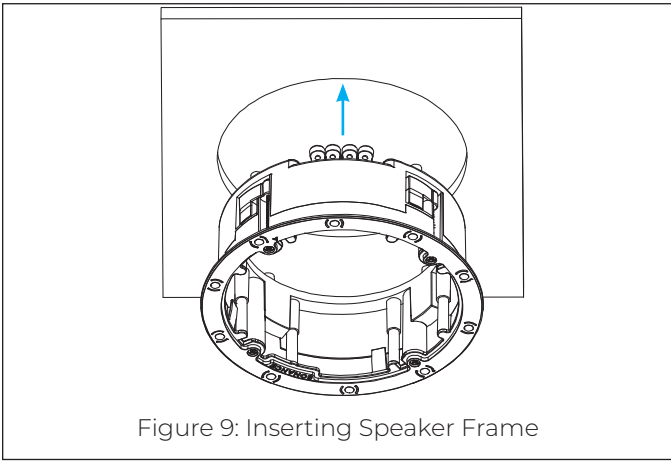

Figure 9: Inserting Speaker Frame
8. Install the wired VX speaker frame into the cutout in the installation surface. Make sure all Roto-Lock toggle feet are retracted so that they are tucked within the mounting hole's borders and then insert the speaker frame into the hole (see Figure 9).